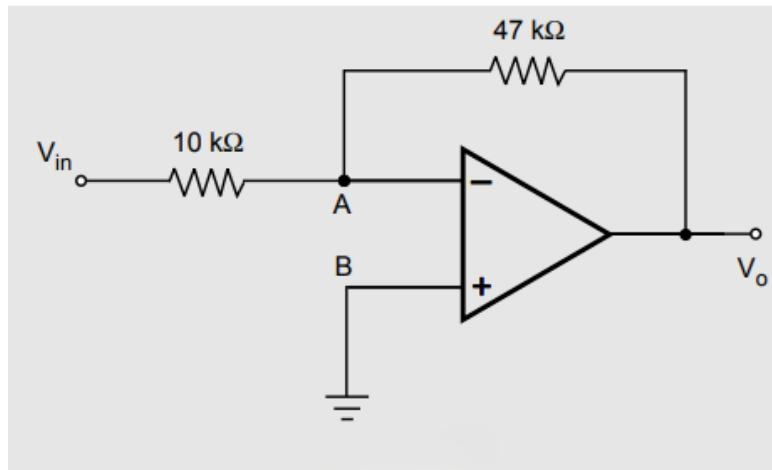

Figure 3.34: Problem 4
4. Determine the voltage gain of the op-amp circuit shown in Figure 3.34.